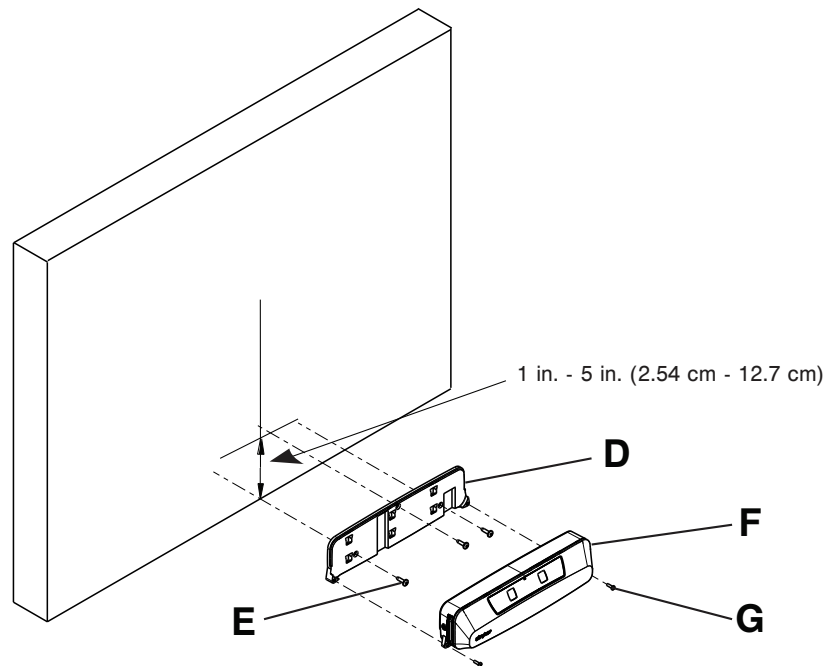

Figure 7 – Mounting specifications
3. Using a #2 Phillips screwdriver, remove the two screws (G) that secure the Secure Connect (F) to the mounting plate (D) (Figure 7). Save the two screws.